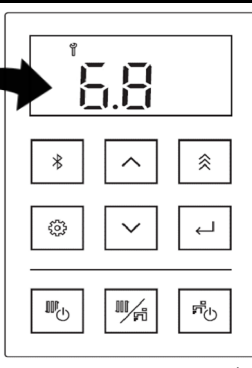

Fig. 3. Data Appearing in Display
- The data for the performance number automatically appears in the display (Fig. 3).